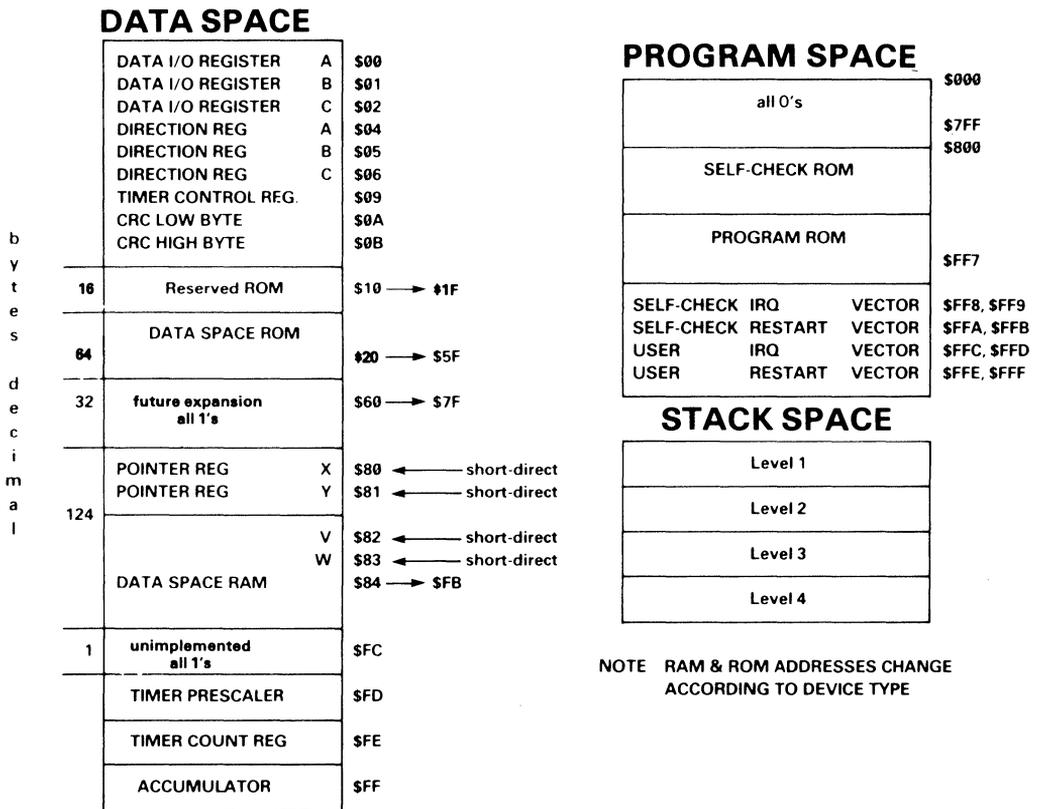

Figure 2.2. MC68HC04P3 Address Map – Other family members are similar except for ROM and RAM values.
The M6804 address map organization is depicted in Fig. 2.2 where the division between the data space, program space and stack space is distinguished.
At the top of the program ROM space are placed all the vectors necessary for Restart and Interrupt operation. See Fig. 2.2.
The M6804 contains a 4-level 12-bit wide stack used to store return addresses during subroutine calls and interrupts. It is implemented in RAM separate from the data RAM, and is not addressable, not readable and not writeable. See Fig. 2.2.
- e. Upon $\overline{\text{RESET}}$ or $\overline{\text{INTERRUPT}}$ the address of the corresponding vector is loaded into the PC. Fig.2.2 shows the address locations. This vector must contain a JMP instruction so that the PC is next loaded with the starting address of an appropriate service routine.